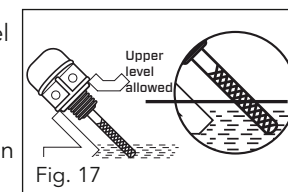

Fig. 17
3. Remove the oil access cover (7) to gain access to the oil filler cap.
6. Insert provided funnel (9) around oil fill/drain and carefully tilt the inverter so the oil drains down the through the funnel (9) into the container.
8. Fill crankcase with new oil using the provided funnel (9) and check the oil level with the dipstick (fig. 17).
9. Reinstall the oil access cover (7).